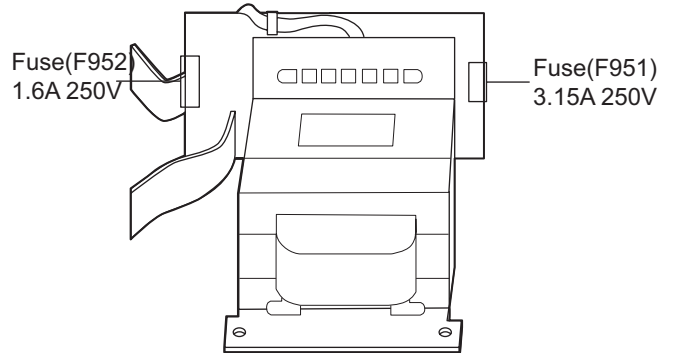

Fig.1
3.1.1 Replacing the fuses (See Fig.1)